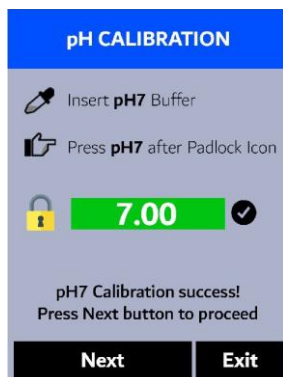
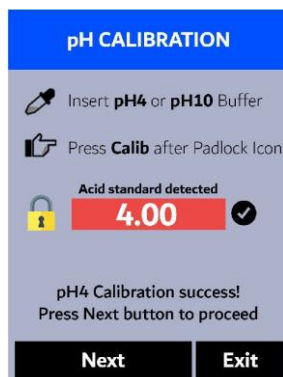
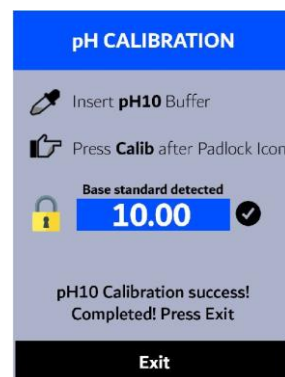

Figure 43.
Figure 44.
Figure 45.
11. If the calibration succeeds, a checkmark (✅) and a "pH7 Calibration success!" message will appear (Figure 43). Otherwise, a warning message is displayed.
- (b) Press **Exit** (OK) to end the calibration process at a one-point calibration.
17. If the calibration succeeds, a checkmark (✅) and a "pH4 Calibration success!" or a "pH10 Calibration success!" message will appear (Figure 44). Otherwise, a warning message is displayed.
- (b) Press **Exit** (OK) to end the calibration process at a two-point calibration.
23. If the calibration succeeds, a checkmark (✅), a "pH4 Calibration success!" or a "pH10 Calibration success!" message, and a "Completed!" message will appear (Figure 45). Otherwise, a warning message is displayed.